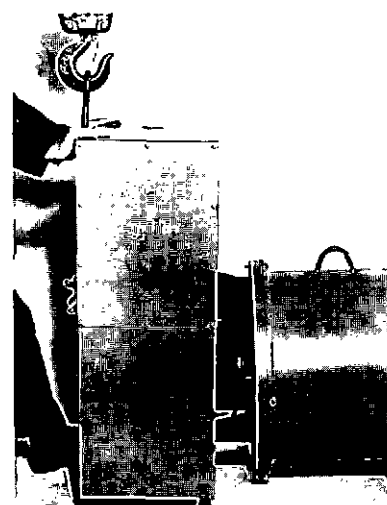

FIGURE 6-7
4. Remove conduit box. (Figure 6-7).